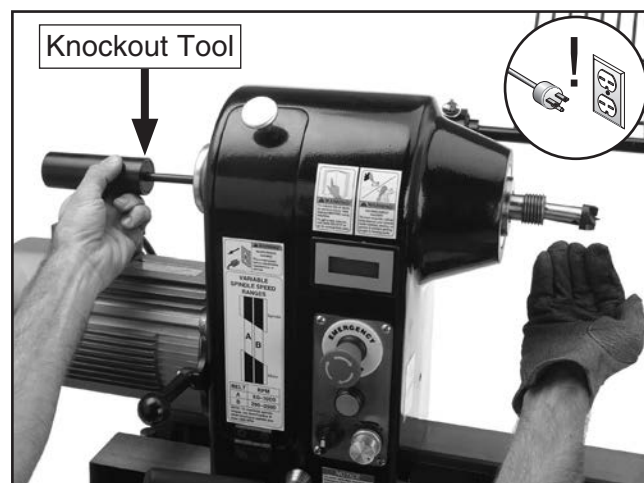

Figure 33. Removing headstock center with knock-out tool.
3. Insert knockout tool through outbound end of spindle and firmly tap back of center, catching it as it falls, as shown in **Figure 33**.